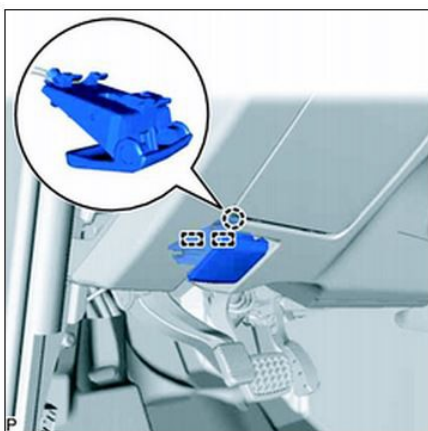

Figure 17
27. Disengage the claw and 2 guides to disconnect the hood lock control lever assembly. Figure 17.